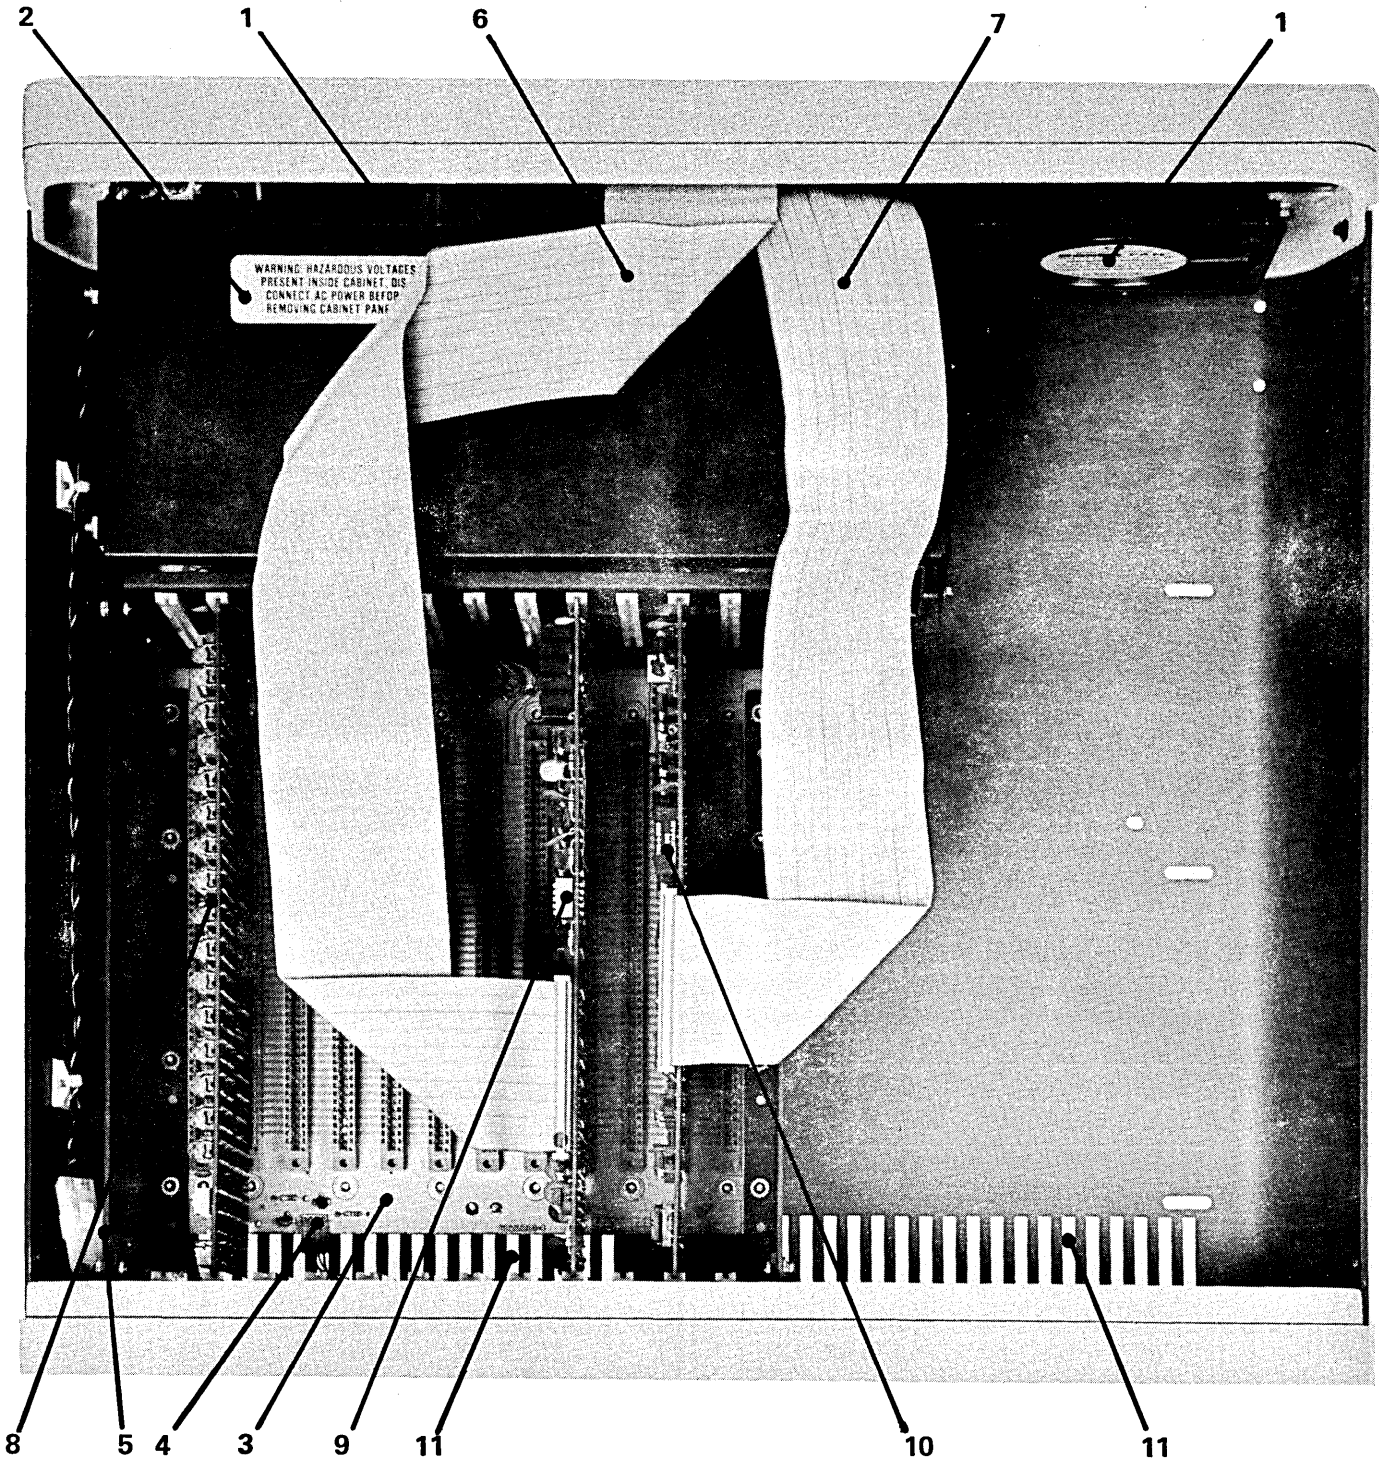

Figure 2-3 – 5100 Computer – Interior
2.07 A four-inch fan(s) draws heat dissipated internally out the rear panel. Air is drawn into the 5100 cabinet through louvers provided in the bottom of the cabinet. Refer to Figure 2-3.
2.10 Refer to Figure 2-3 for the description which follows. The card cage furnishes a rigid support structure for the S-100 Bus cards when they are inserted into the S-100 Bus. The Motherboard PC Assembly contains 12 S-100 Bus receptacles or jacks, J1 through J12. Each jack has 100 separate pins. The actual bus consists of 100 parallel traces on the pc board connecting the same pin on each jack. Each line has a ground trace between it and the adjacent line to minimize coupling between signal lines.
2.18 Input/Output (I/O) Signals not affecting the S-100 Bus are transferred over special multi-pin connectors normally located at the top of the pc assembly. Cable harnesses which mate with these connectors are normally made up of flat multi-pair or flat twisted multi-pair cable. Figure 2-3, Keys 6 and 7, show typical flat I/O cables.